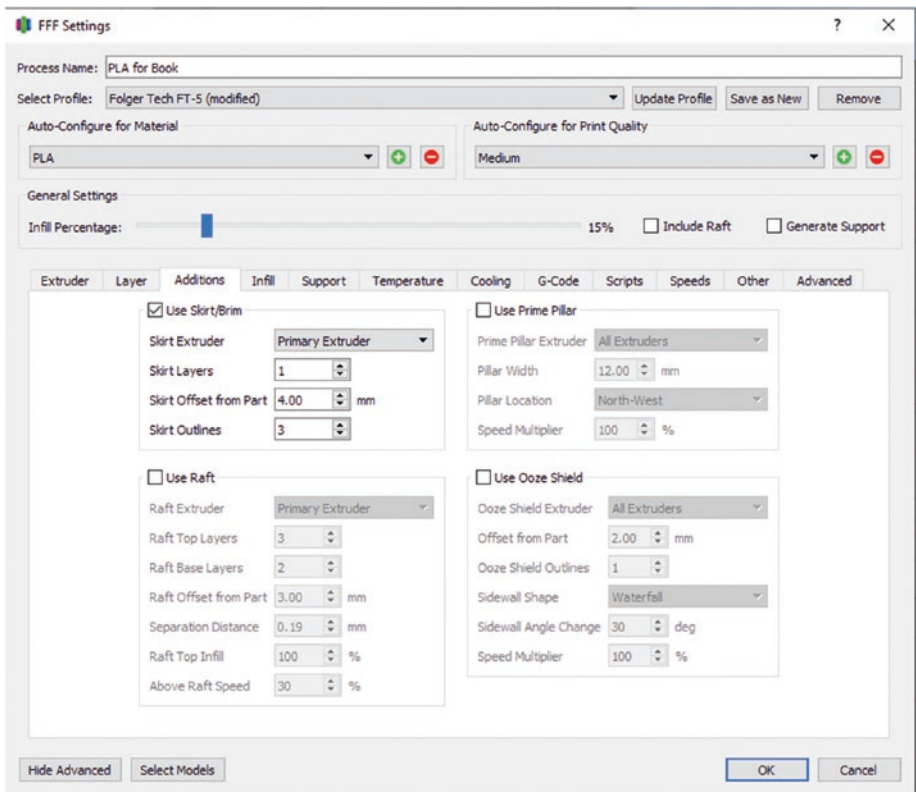

Figure 4-47. Add a “Skirt/Brim” to the print to purge some plastic
8. Now select or create a new process. For the first process, use the following settings. I would also recommend searching Google for your printer's profiles as there is a good chance someone has already made a profile for the particular printer you have; remember not all printers are the same, and my settings may not work for your printer. See Figures 4-47 through 4-51.